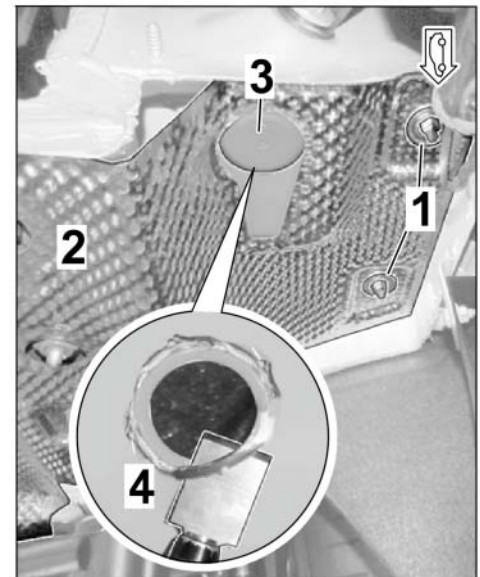

Figure 10
- 1.3.6 Detach heat shield in the rear silencer area – at the right (⇒ *Figure 10*) and bend it down slightly.
- 1.3.7 Remove dummy plug on underbody and de-burr using a spatula (⇒ *Figure 10-Magnifier-*).